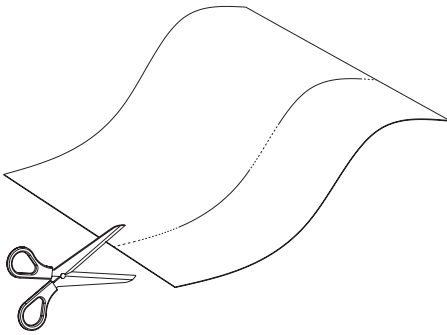

Fig. 5
8. Cut PVC sheet supplied to suit the depth of the wall (Fig. 5).